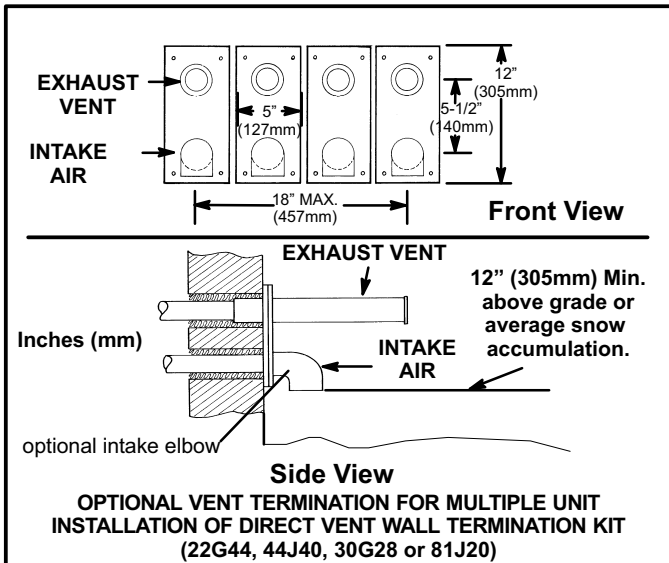

FIGURE 35
- A multiple furnace installation may use a group of up to four terminations assembled together horizontally, as shown in figure 35.